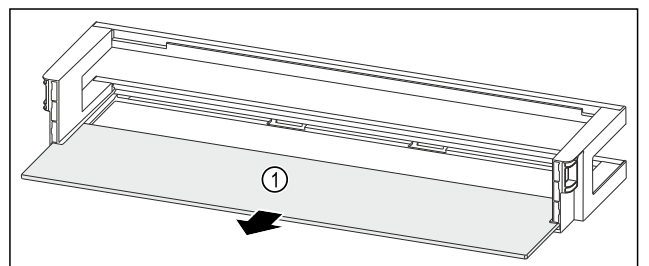

Fig. 140 Door rack with shelf
- Remove the shelf Fig. 140 (1).